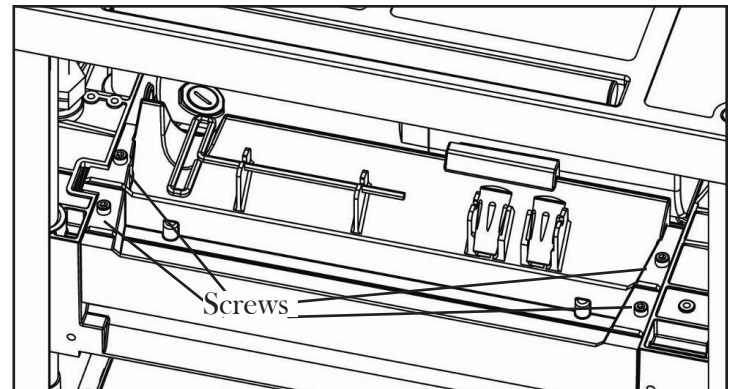

Figure 13
## CHANGING BLADES (FIGURES 13 - 15)
2. Loosen and remove the four screws from the blade guard on the rear side of the thicknesser. Remove the blade guard (Figure 13)